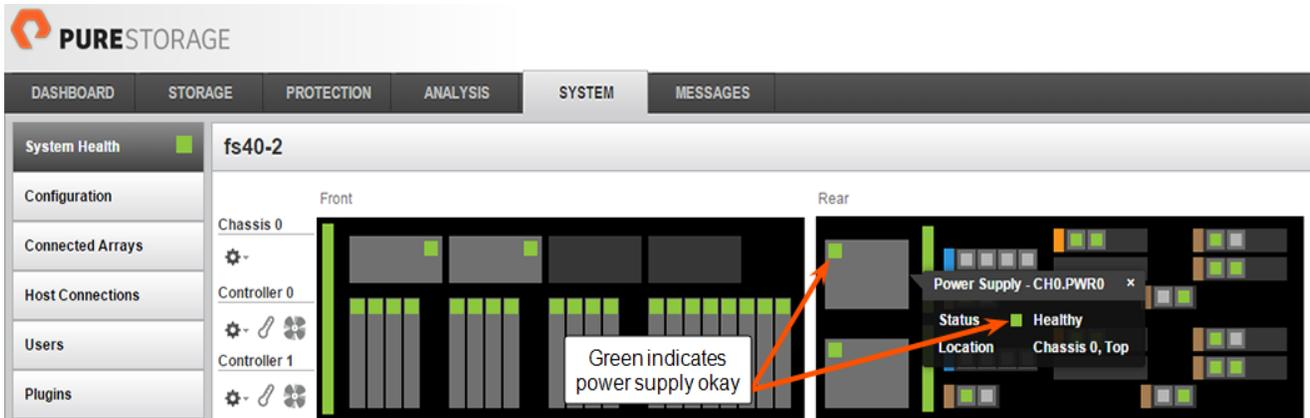

Figure 2-8. GUI Indication of Functional PSU
1. Request that the customer or Pure Storage Technical Support representative use the Purity GUI or CLI to verify the replacement. See Figure 2-8 for an example of GUI indicators and Figure 2-9 for an example of CLI indicators that reflect an operational power supply.